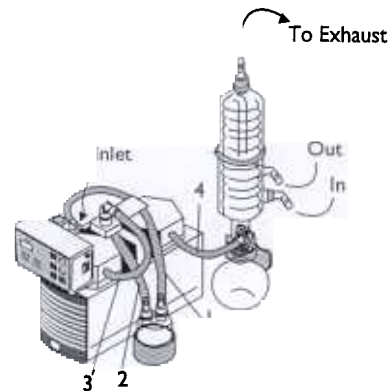

Fig. 10: Tubing Connection SC (twin head pumps).
- ★ Tubing: see figure 10. Choose tube material which is resistant to the media to be used.
- ★ Tubing of twin head pumps: see figure 10. When connecting single head pumps, study the information sheet that accompanies the accessories. Choose tube material which is resistant against the media to be used.